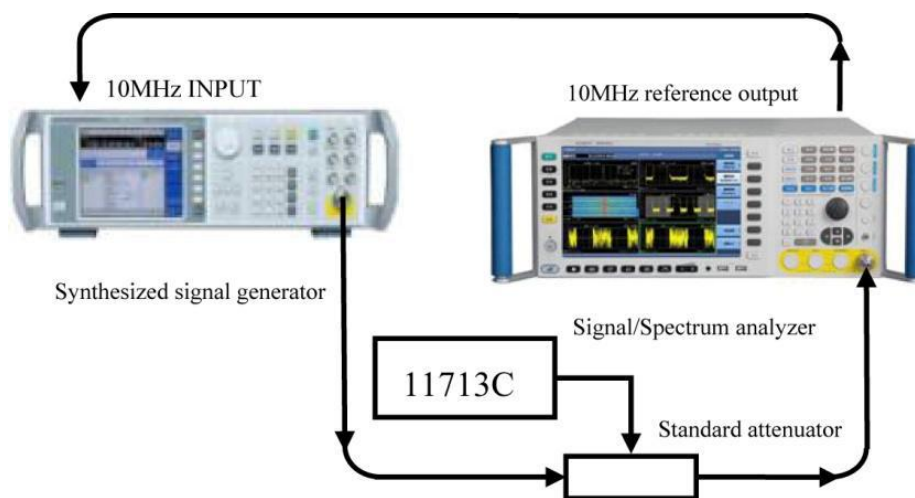

Fig. 8.13 Schematic diagram of reference level switching error
- 1) Connect the instrument as shown in Fig. 8.13, reset the 4051 analyzer and set it to provide frequency reference for the signal generator. Set the frequency of the signal generator as 30.02 MHz and the output amplitude as -3 dBm.